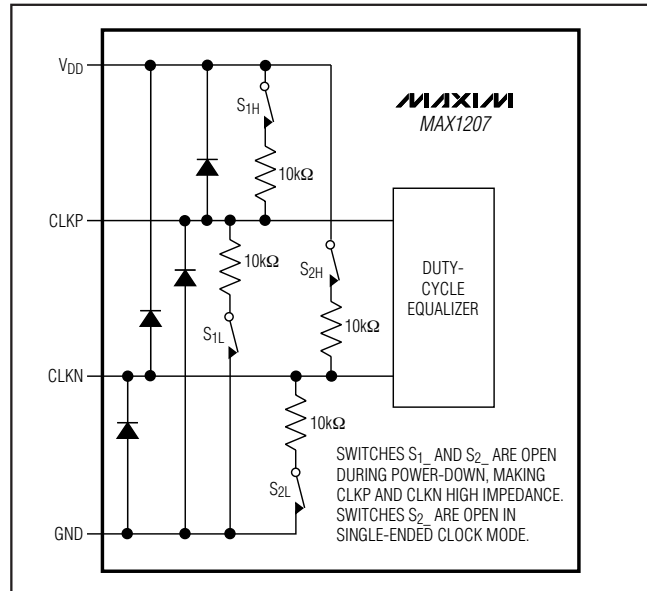

Figure 4. Simplified Clock Input Circuit
CLKP and CLKN are high impedance when the MAX1207 is powered down (Figure 4).
- CLKP, CLKN clock inputs go high impedance (Figure 4).